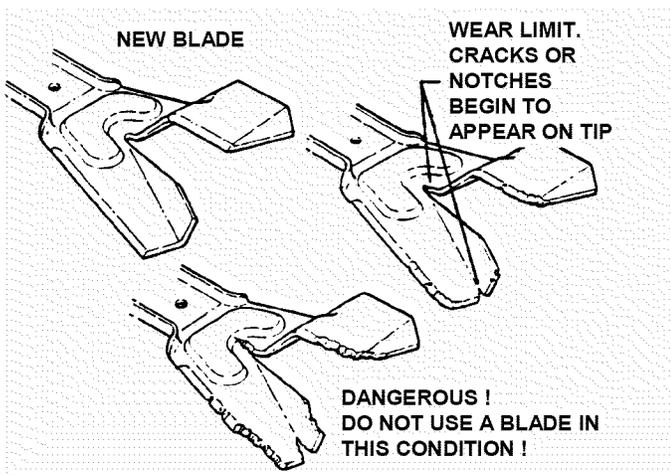

FIGURE 4.2
1A. Inspect blade frequently for signs of excessive wear or damage. See Figure 4.2.
6. Reinstall blade. See Figure 4.2. Check torque of blade retaining cap screw. Recommended torque should be 30 to 40 ft. lbs.